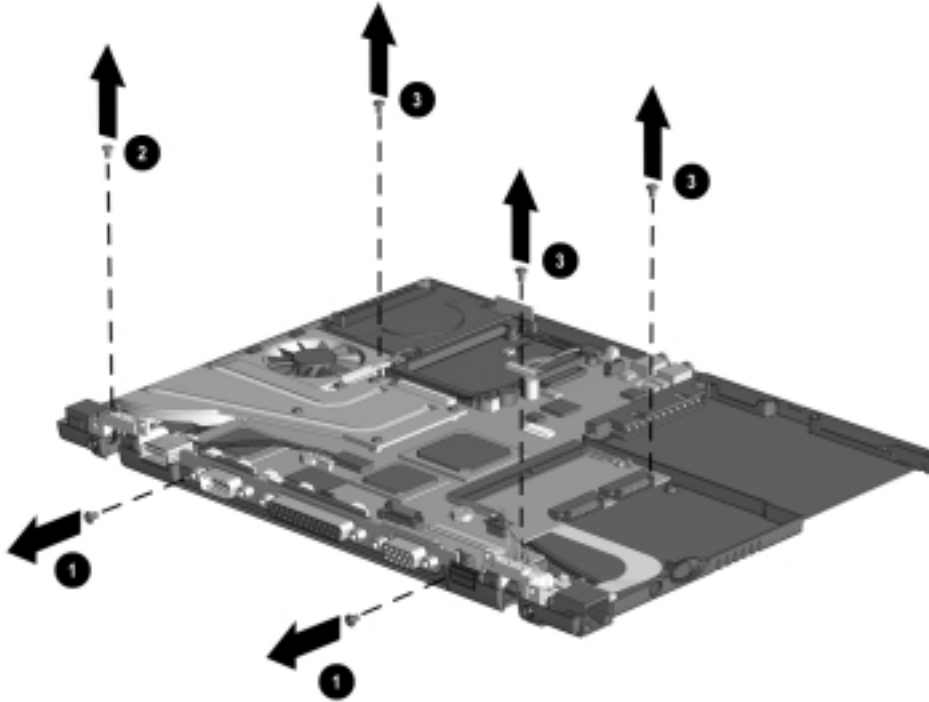

Figure 5-28. Removing the System Board
11. Remove the two screws from the back of the computer that secures the system board to the base enclosure ❶ (Figure 5-28).
12. Remove the silver screw from the heat sink ❷.
13. Remove the black screws from around the fan ❸, around the USB port ❸, and around the battery cable in the upper left of the board ❸.